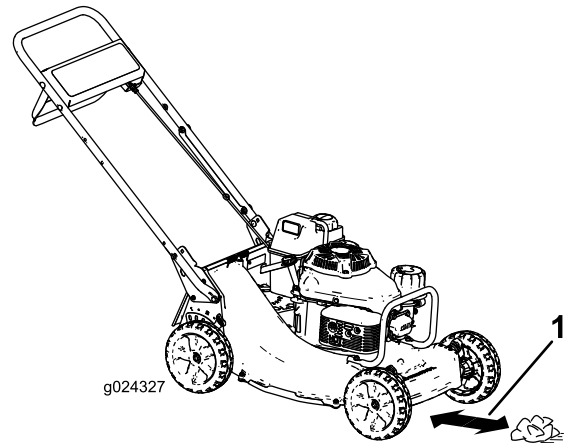

Figure 17
4. Place the newspaper ball about 13 cm (5 inches) in front of the machine (Figure 17).